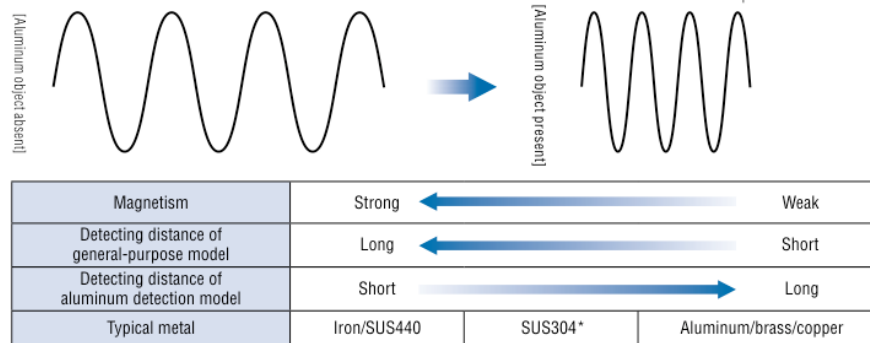

Fig.19 Magnetic objects and non-magnetic objects. Remember that magnetic objects are easily attracted by a magnet, whereas non-magnetic objects are not.
2. Principle and major types of eddy-current proximity sensors (Fig.19)